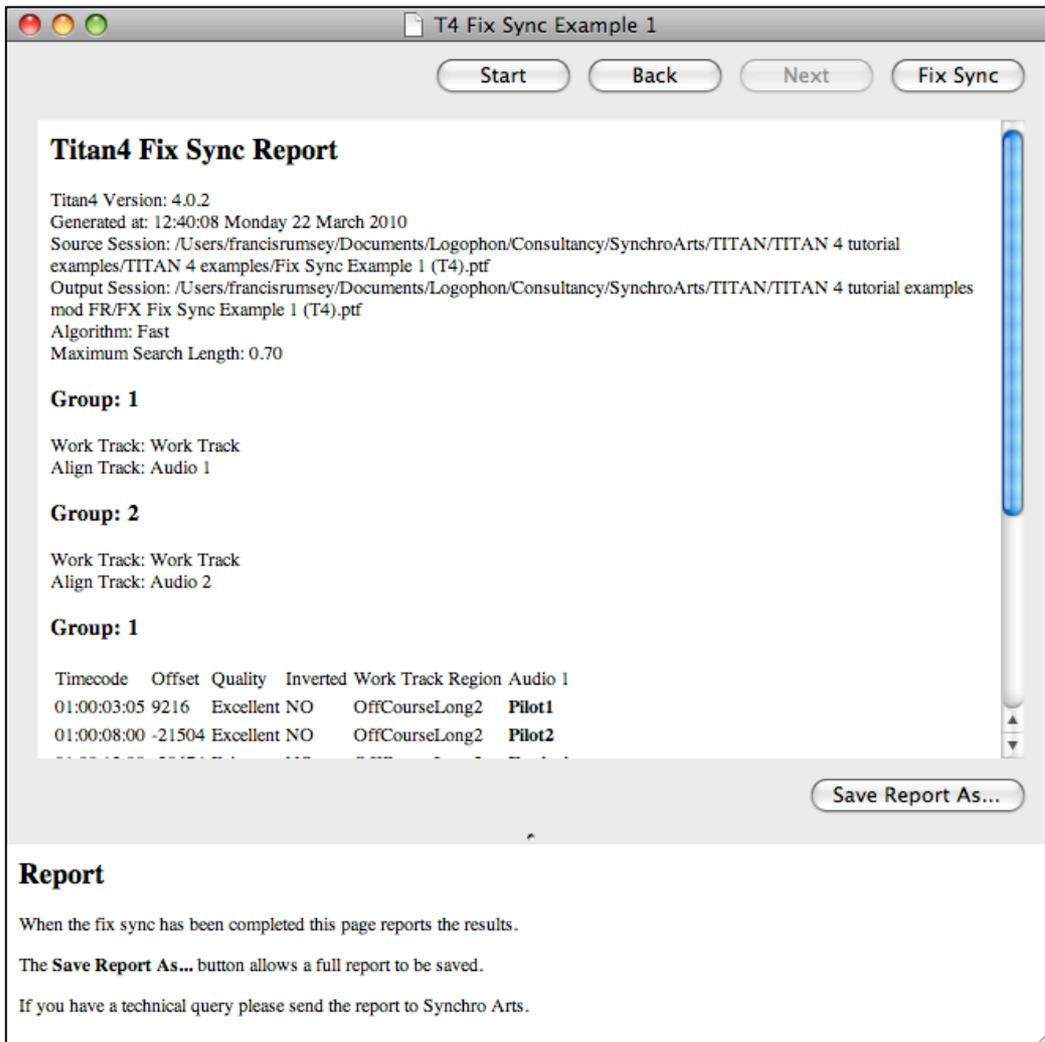

Figure 22 Report window
- After the Fix Sync process is complete the Report page will appear. Which will look similar to that shown in Figure 22.